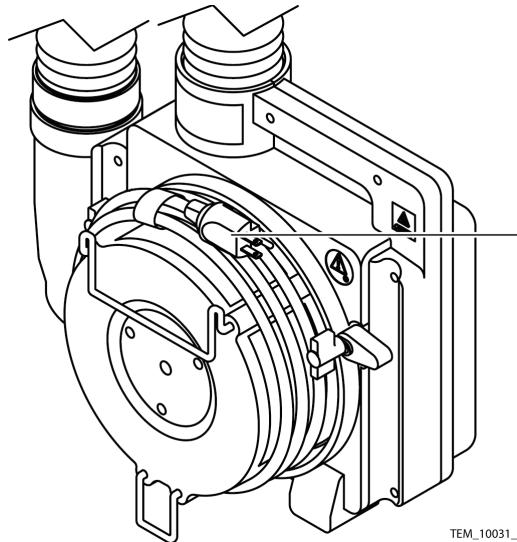

Figure 14. Power Cord
3. Unwind the power cord from the filter cover. See Figure 14.